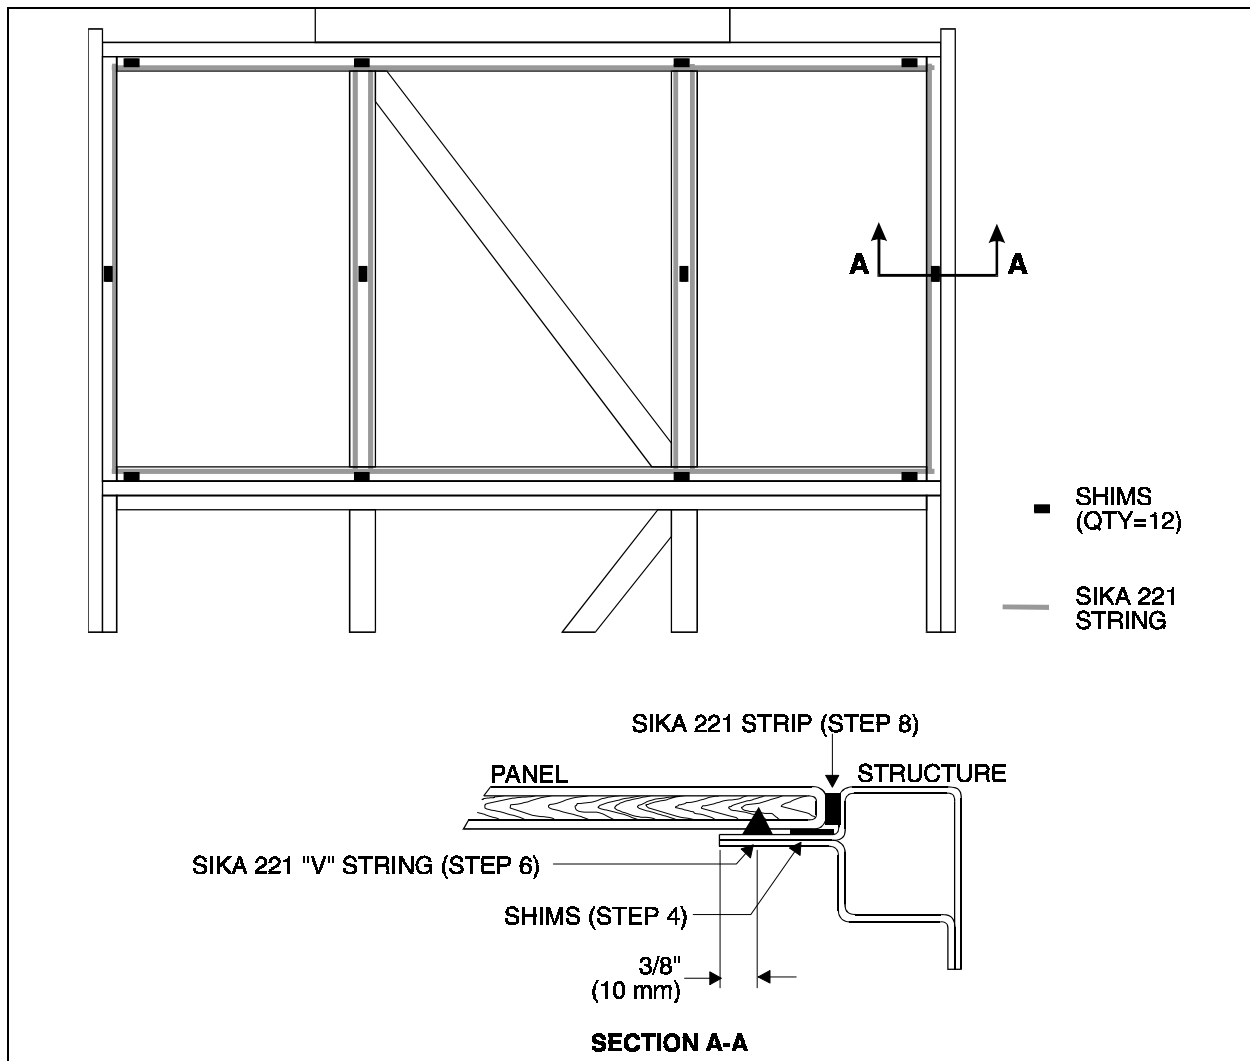

FIGURE 1
1. Using a 60 grit sandpaper or a red *Scotch Brite* type pad, bring contact surface (Fig. 1) on structure to bare metal.
2. With a disposable cloth rag (*J-Cloth* towel type), apply *Sika 205* cleaner (Prévost #683096) on contact surface on structure (Fig. 1) (make only one pass with rag). Let *Sika 205* cleaner evaporate for 4-5 minutes before proceeding with next step.
- With a disposable cloth rag (*J-Cloth* towel type), apply *Sika 210T* primer (PrévoSt #683094) on contact surface on structure (Fig. 1) (make only one pass with rag). Let dry for a minimum of 20 minutes (at 73°F (23°C) and 50% humidity, longer if colder), and no more than 5 hours prior to apply *Sika 221* glue string (step 5).
- Place self-adhesive rubber shims (PrévoSt #790393, qty=12) as shown on figure 1.
- With *Sika 221* glue (PrévoSt #680532), make a 5/16" (8 mm) high "V" string, 3/8" (10 mm) from edge, all around the compartment and on crossmembers (Fig. 1).
- Make a strip of *Sika 221* all around the panel (Fig. 1).